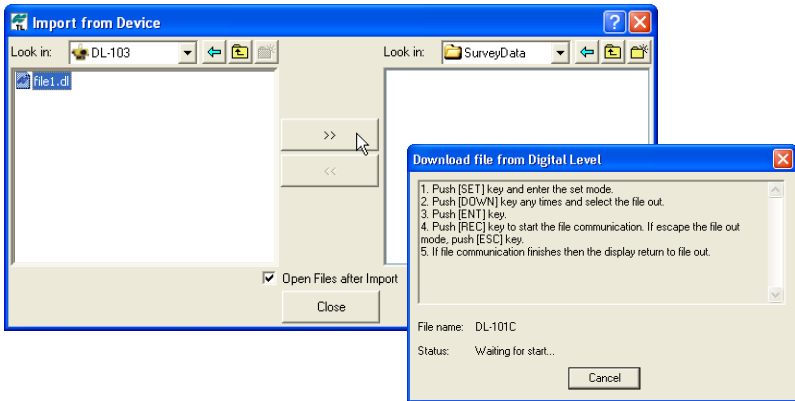

Figure 4-9. Import File from Digital Level
7. Follow all steps listed in the Download file from the *Digital Level* dialog box (Figure 4-9 on page 4-11) to select a file and begin the import. These steps may vary depending on the connected device.